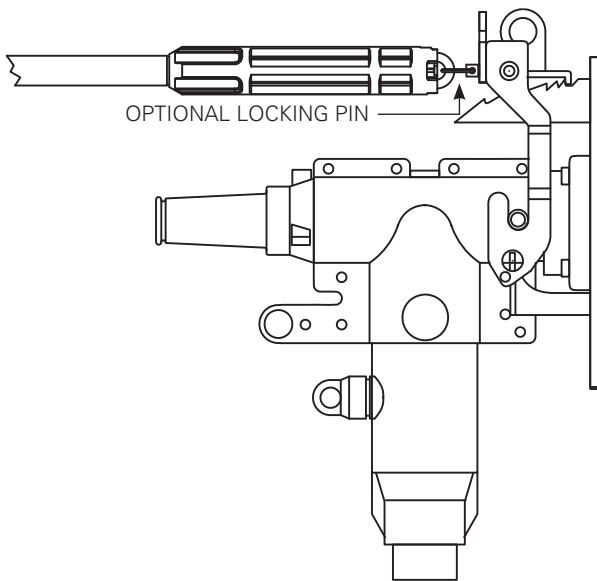

Figure 13c. Thread optional locking pin.
- If present, thread optional locking pin with clampstick to secure connection. (Refer to Figure 13c.)